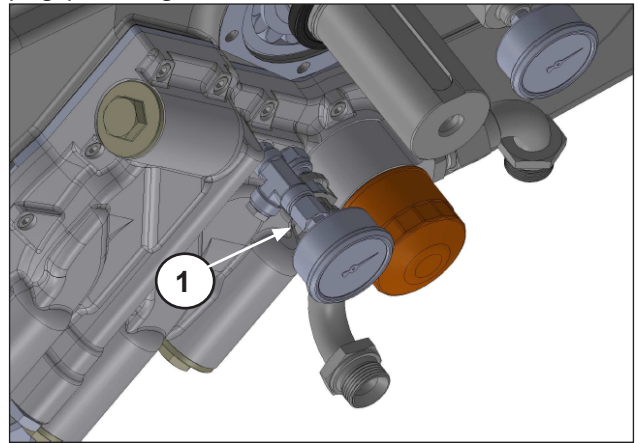

Fig. 14
Undo and remove the pressure gauge, nipple, fittings and plug (pos. ①, Fig. 14).